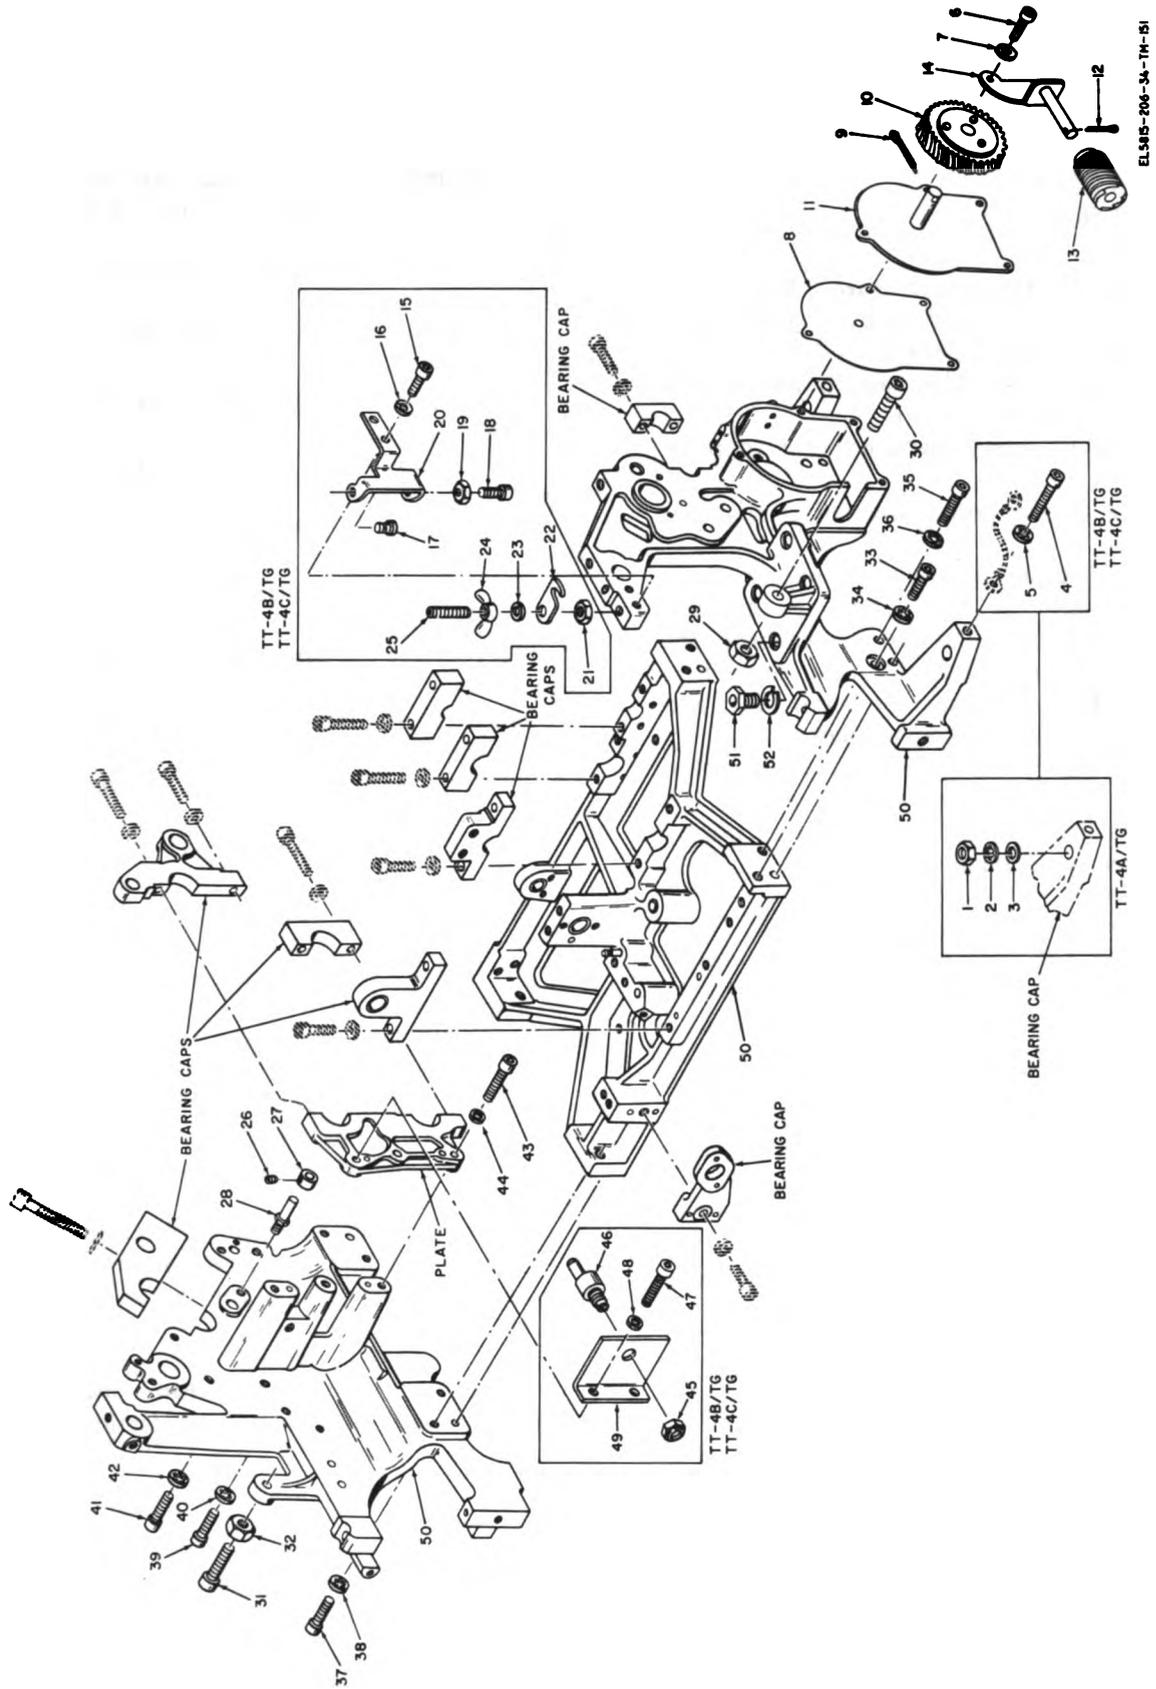

Figure 3-79. Teletypewriter frame assembly (TT-4A/TG, TT-4B/TG, TT-4C/TG, TT-48/TG, TT-698A/TG, TT-698B/TG and TT-698C/TG), exploded view.
3-109. Disassembly and Reassembly of Teletypewriter Frame Assembly (fig. 3-79)
- (1) Remove the dust cover (para 3-22a).
- (2) Remove the paper shaft, paper-shaft bracket, and paper chute (para 3-23a).
- (3) Remove the assembled teletypewriter from the mounting base (para 3-25a).
- (4) Remove the teletypewriter motor (para 3-26a).
- (5) Remove the keyboard-transmitter (para 3-27a).
- (6) Remove the platen assembly (para 3-28a).
- (7) Remove the two machine screws (15, fig. 3-79) and lockwashers that hold the platen bracket (20) to the frame assembly. Remove the bumper (17), machine screw (18), and plain hexagonal nut from the platen bracket.
- (8) Loosen the plain hexagonal nut (21) and remove assembled items from the frame assembly. Remove the plain hexagonal nut, platen lock (22), lockwasher, and wing nut (24) from the setscrew.
- (9) Remove the carriage assembly (para 3-29a).
- (10) Remove the line terminal board (para 3-30a).
- (11) Remove the instrument panel (para 3-31a).
- (12) Remove the selector-magnet assembly (para 3-58a).
- (13) Remove the rangefinder (para 3-59a (TT-4A/TG and TT-698/TG) or 3-60a (TT-4B/TG, TT-4C/TG, TT-698A/TG and TT-698B/TG)).
- (14) Remove the selector levers and Y-levers (para 3-61a (TT-4A/TG and TT-698/TG) or 3-62a (TT-4B/TG, TT-4C/TG, TT-698A/TG, and TT-698B/TG)).
- (15) Remove the transfer-lever shaft assembly (para 3-63a).
- (16) Remove the print-bail-blade shaft assembly (para 3-64a).
- (17) Remove the signal bell assembly (para 3-65a).
- (26) Remove the manual carriage-return mechanism (para 3-83a).
- (27) Remove the carriage-feed mechanism (para 3-84a (TT-4A/TG and TT-698/TG) or 3-85a (TT-4B/TG, TT-4C/TG, TT-698A/TG and TT-698B/TG)).
- (28) Remove the carriage-return operating mechanism (para 3-86a).
- (29) Remove the carriage-rack drive-shaft assembly (para 3-89a).
- (30) Remove the margin-bell assembly (para 3-90a).
- (31) Remove the carriage-feed shaft assembly (para 3-91a (TT-4A/TG and TT-698/TG) or 3-92a (TT-4B/TG, TT-4C/TG, TT-698A/TG and TT-698B/TG)).
- (32) Remove the carriage-return shaft assembly (para 3-93a (TT-4A/TG and TT-698/TG) or 3-94a (TT-4B/TG, TT-4C/TG, TT-698A/TG and TT-698B/TG)).
- (33) Remove the keyboard-transmitter drive shaft assembly (para 3-96a).
- (34) Remove the motor-stop assembly (para 3-97a (TT-4A/TG and TT-698/TG) or 3-99a (TT-4B/TG, TT-4C/TG, TT-698A/TG and TT-698B/TG)).
- (35) Remove the motor filter box assembly (para 3-103a).
- (36) On the TT-4A/TG and TT-698/TG, remove the two machine screws (30 and 31, fig. 3-79) and two plain hexagonal nuts from the frame assembly.
- (37) On the TT-4B/TG, TT-4C/TG, TT-698A/TG and TT-698B/TG remove the machine screw (31) and plain hexagonal nut from the frame assembly.